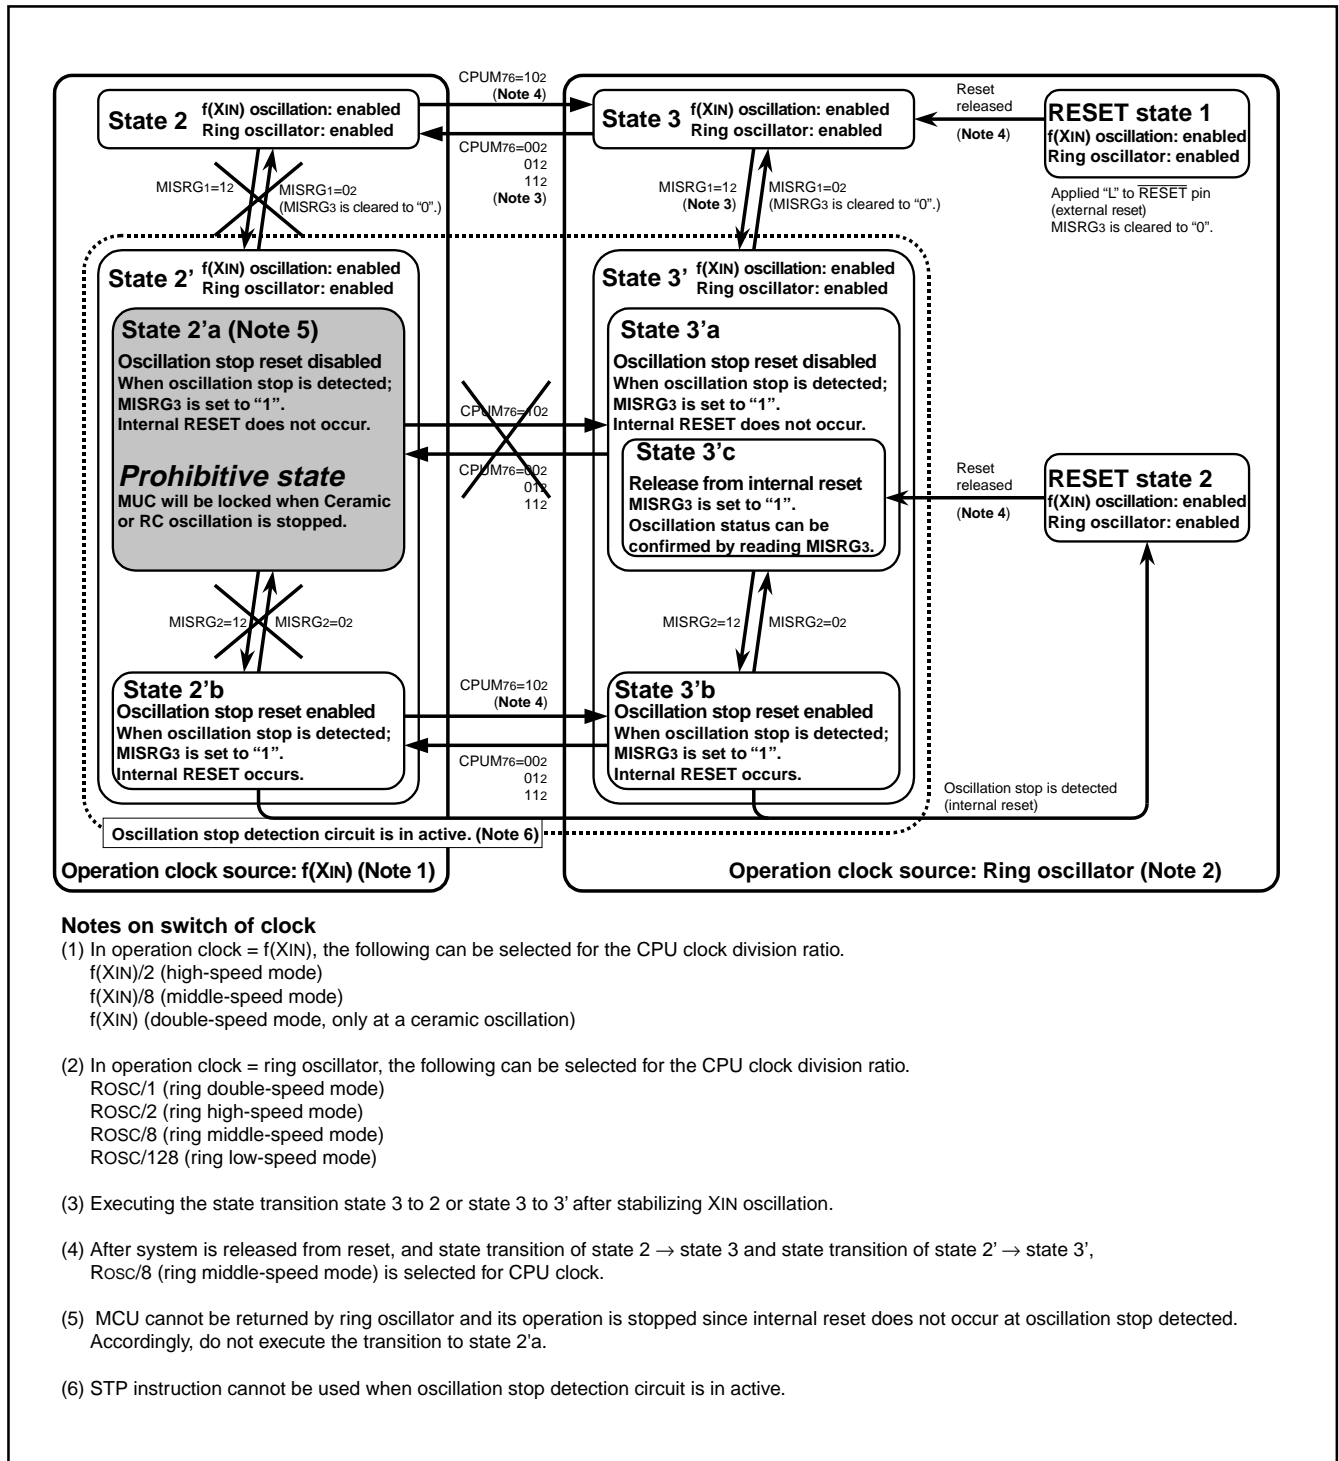

Fig. 81 State transition 2
- Do not execute the transition to "state 2'a" shown in Figure 81 because in this "state 2'a", MCU is stopped without reset even when XIN oscillation is stopped.